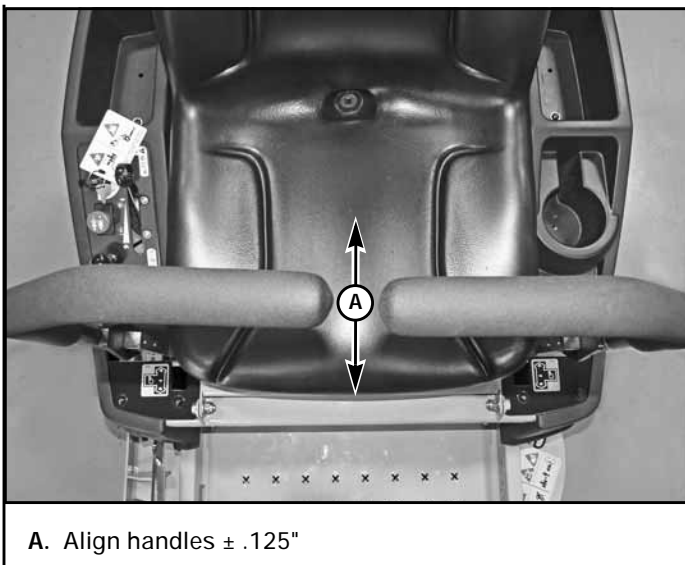

Figure 4-3
10. The steering control levers should be adjusted so they align with each other when in the neutral position. Figure 4-3